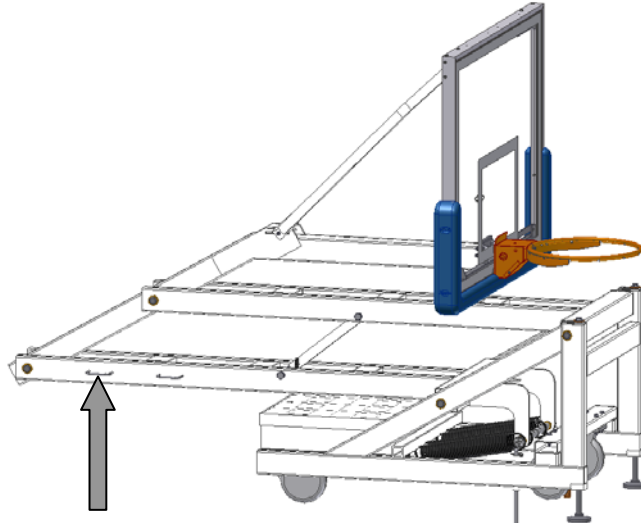

Figure 8-2: Lift handle on lower upright.
3. Stand to one side of the unit and lift one of the two handles on the lower upright (Figure 8-2).